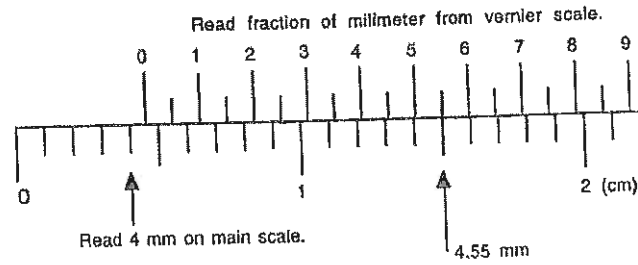

Figure 2. A reading on a vernier scale.
**The Vernier Principle:** The Vernier is an auxiliary scale which bears a simple relationship to the main scale divisions. This scale divides (N-1) main scale divisions into N parts, e.g. a metric Vernier divides 19 mm into 20 parts so each unit on the Vernier scale is 0.95 mm. The difference between the main scale divisions and the Vernier division is called the least count. For the metric scale the least count is  $1.0 \text{ mm} - 0.95 \text{ mm} = 0.05 \text{ mm}$ . The least count is the accuracy to which the Vernier can be read. **Figure 2** shows a Vernier reading of 4.55 mm. The Vernier principle can be used to divide main scale divisions into fractions other than 1/10 or 1/8. For example, angular scales often read to minutes of arc by dividing a degree scale into 60 parts. For each Vernier scale, you have to determine what main scale division the Vernier divides and thus, to what accuracy the Vernier reads.